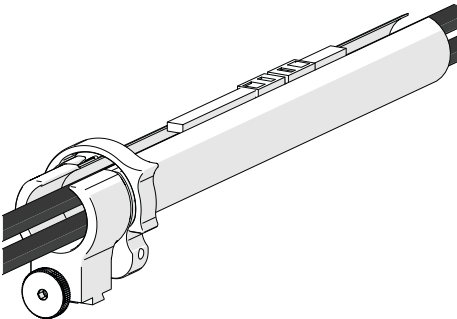

Fig. 97 - Zip opposite end
3. Once the cable is placed the entire length of tube, bring the zipper from the tubes opposite end, meeting at any point in the middle (*Fig. 97*).